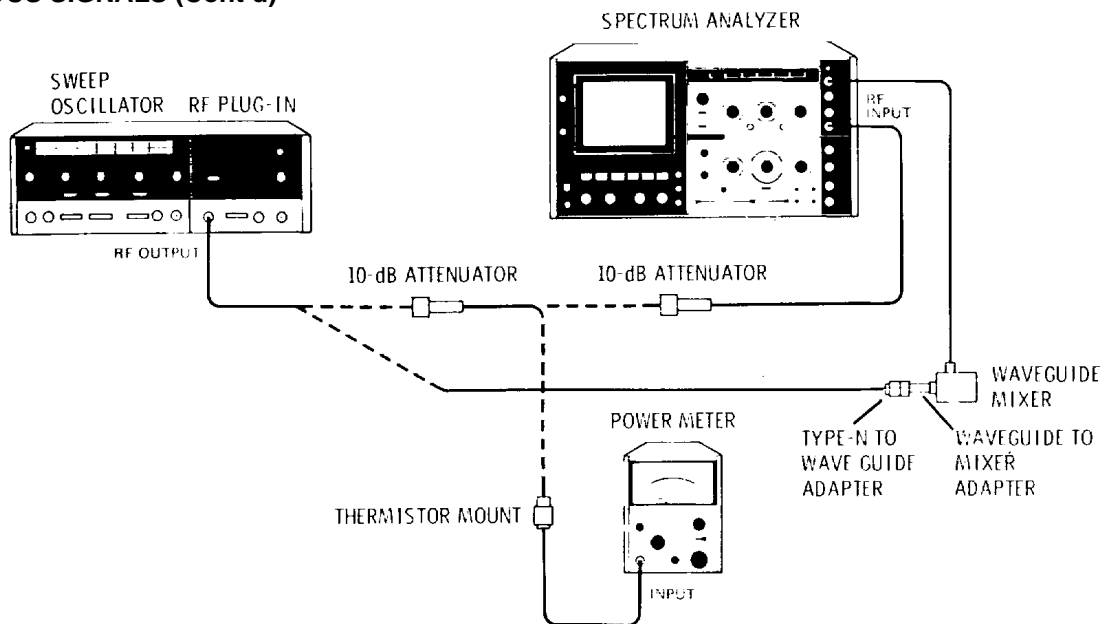

Figure 4-7. Spurious Signal Test Setup
a. Connect equipment as shown in Figure 4-7 with power meter connected through a 10 dB attenuator to the 86260A RF OUTPUT connector.
c. Set 8620A LINE switch to ON; press CW pushbutton. Connect Spectrum Analyzer input through two 10 dB attenuators to 86260A RF OUTPUT connector. (See Figure 4-7.)